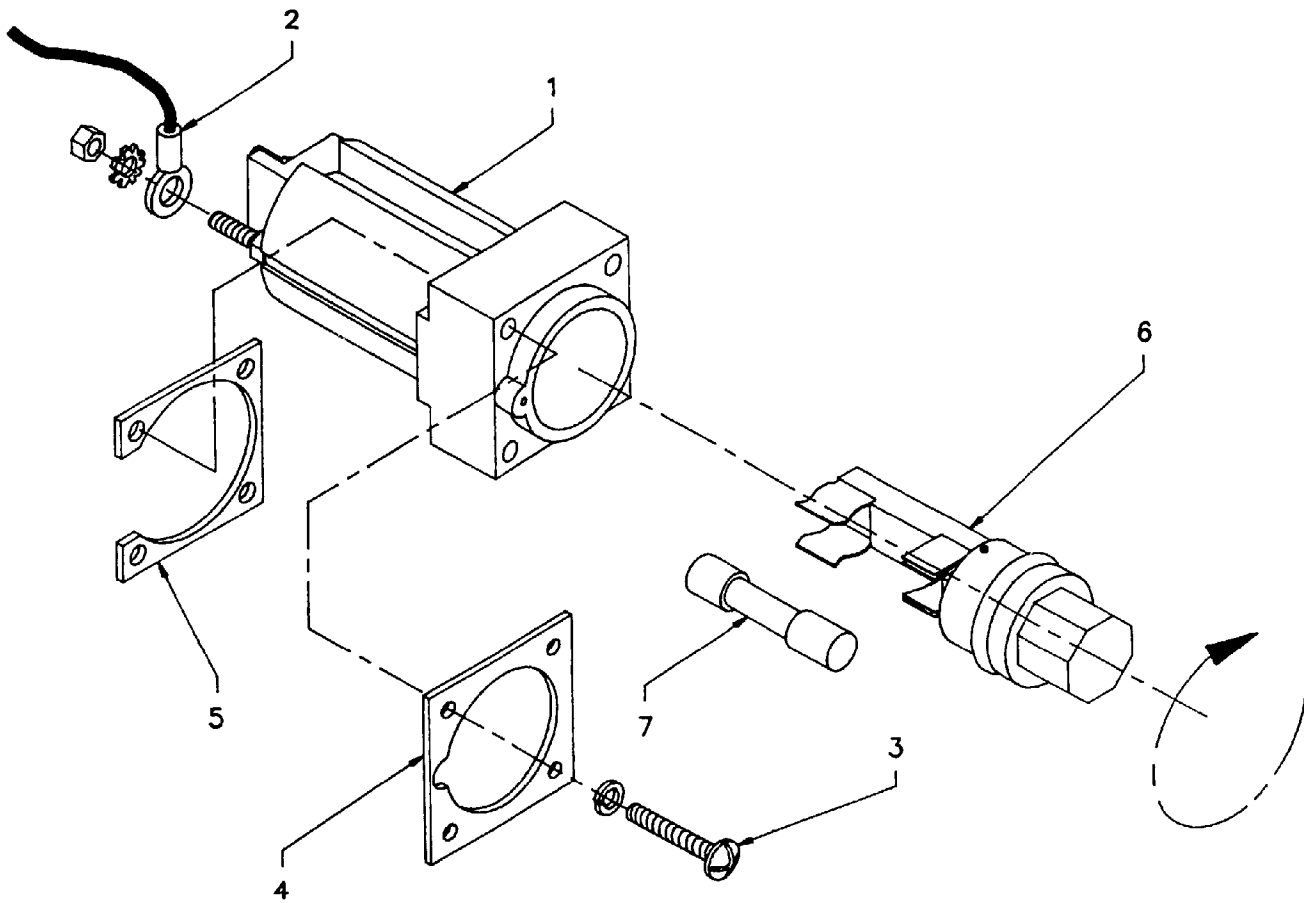

Figure 6-27. Fuseholder, Blown Fuse Indicating, Type FHL12U
This component, located on the 2SA switchboard, should be replaced upon failure. See figure 6-27 for detailed view.
- d. Twist the cap (6) 1/4 turn CCW and pull to remove the fuse carrier (see figure 6-27).
- e. Pull defective fuse (7) from clips.